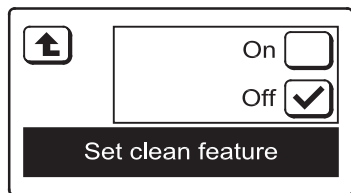

FIG. 60
5. Press the SET CLEAN FEATURE button and the display will change to show the **Set clean feature** screen (See Figure 60).